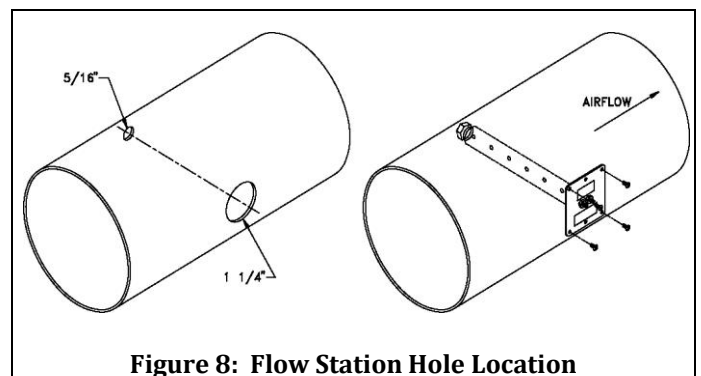

Figure 8: Flow Station Hole Location
- 2) Drill a 1 1/4" hole in the side of the duct work. If probe is longer than 18 inches, drill a 5/16" hole directly across from the 1 1/4" hole (Figure 8).
- 5) Screw the flow station into place with sheet metal screws (screws not provided by TSI). On 18 inch and longer flow stations tighten the 5/16" nut. The finished installation should look like Figure 8.